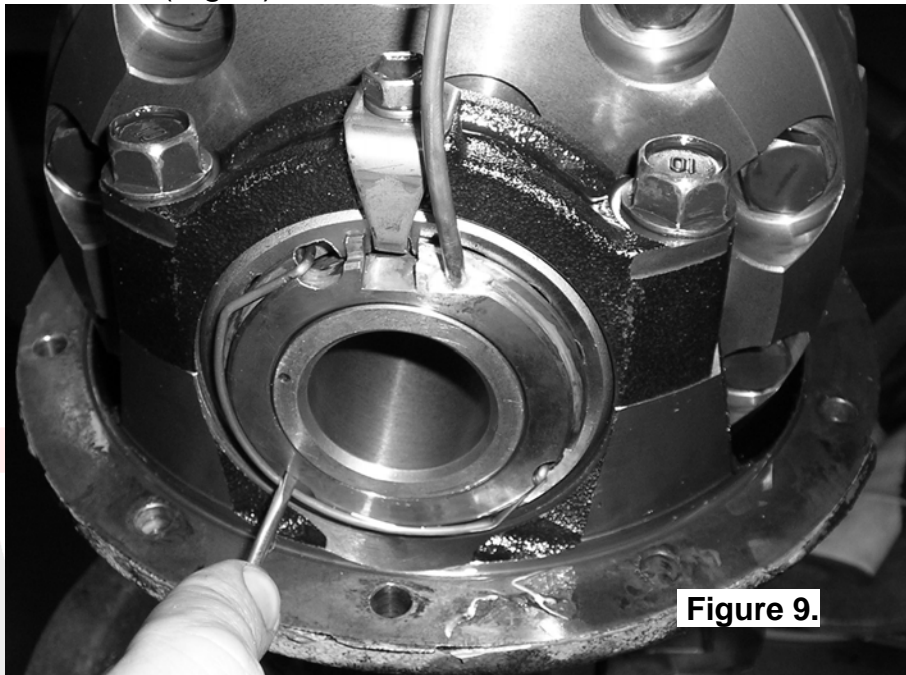

Figure 9.
- ☐ Install the spring clip by first hooking both ends of the clip into the small aligned cutouts of the seal housing and the adjuster nut, and then snapping the clip into the groove of the seal housing using a screwdriver. (Fig.9.)